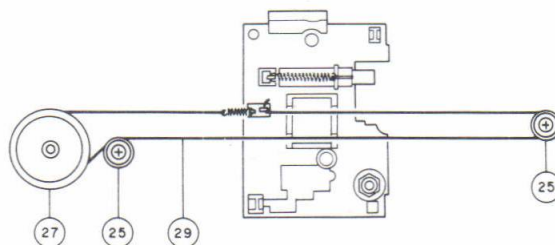

Fig. 5
2. Detach the String (29) from the Pulley (25), then detach it from the Worm Wheel Gear (27). (Figure 5)